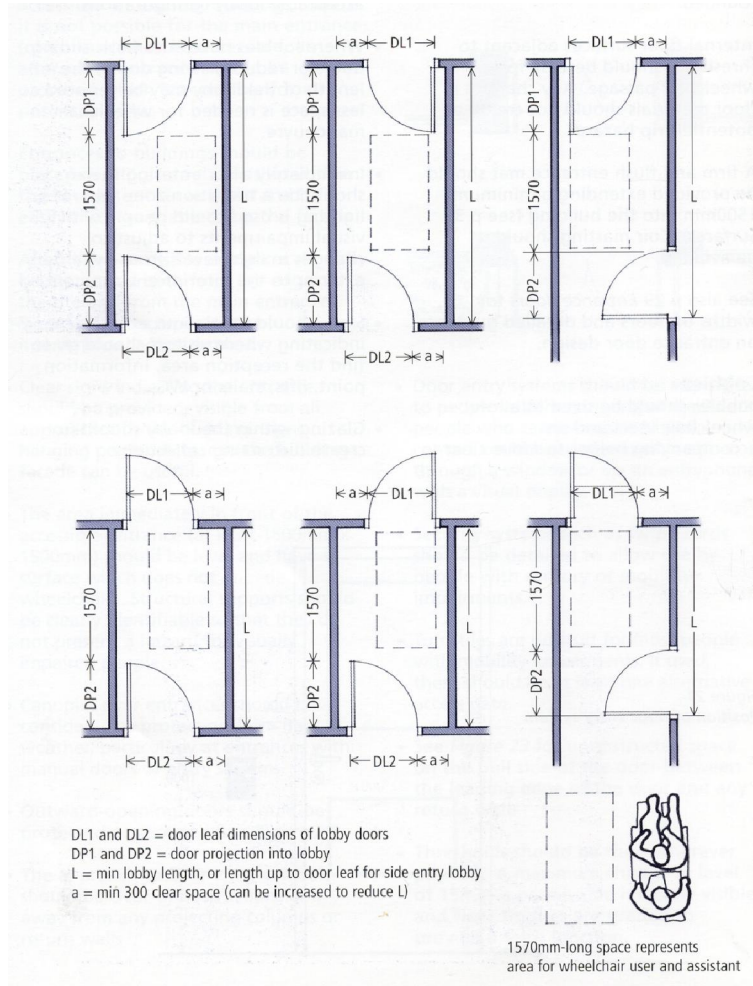

Figure 22
- Lobbies should be sized to allow wheelchair users and a carer to move clear of the first door before negotiating a second door (Figure 22).